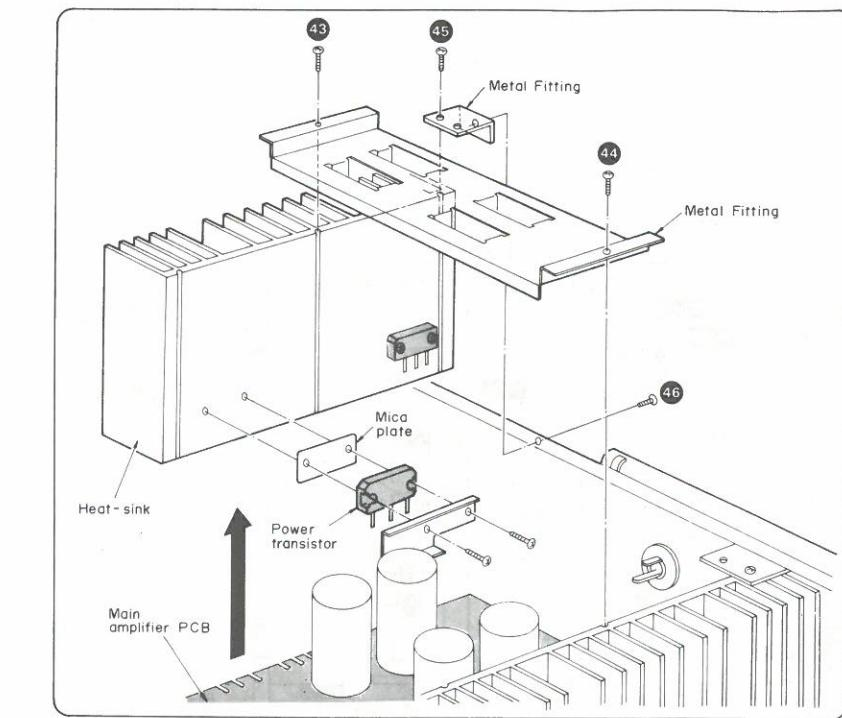

Fig. 10
- Remove the 4 setscrews (Fig. 10 : 43 ~ 46) of the metal fitting which secures the electrolytic condenser.
- Remove the transistor along with the heat-sink from the printed circuit board as shown in Fig. 10.